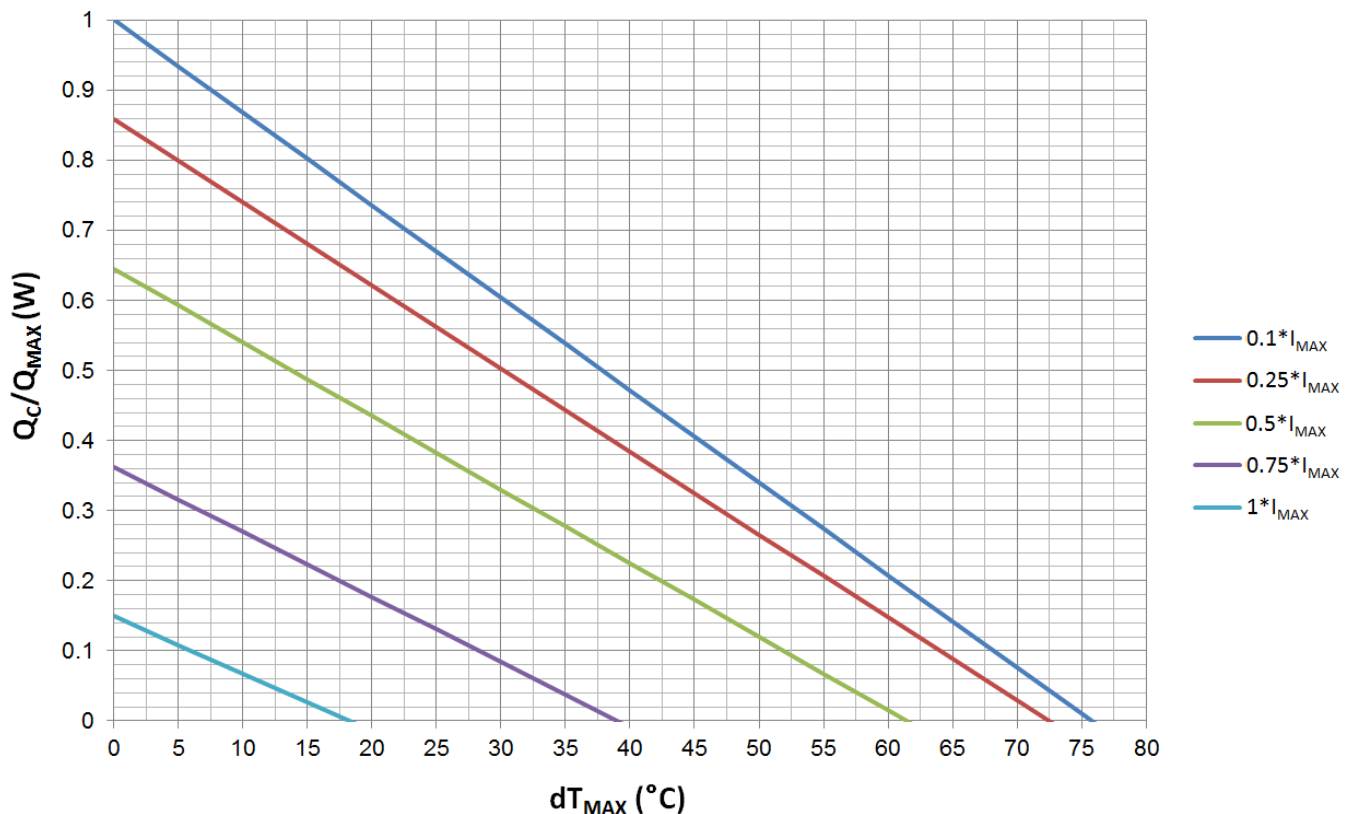
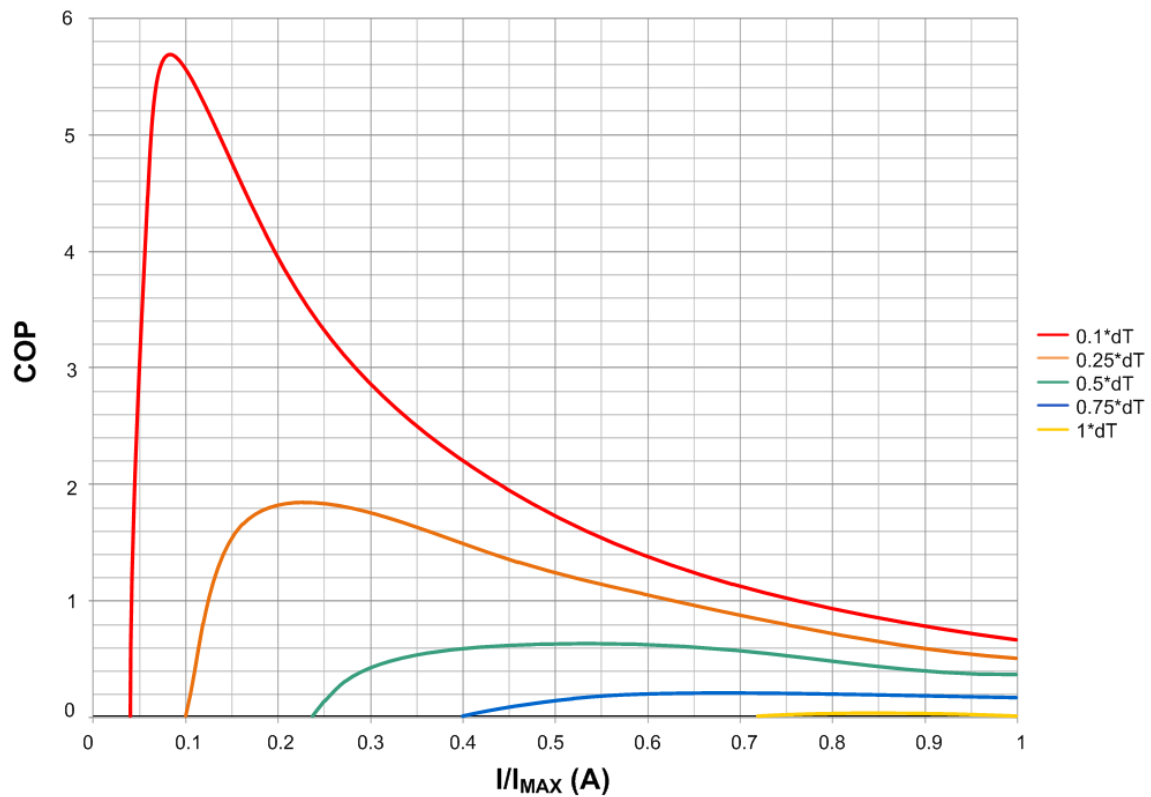
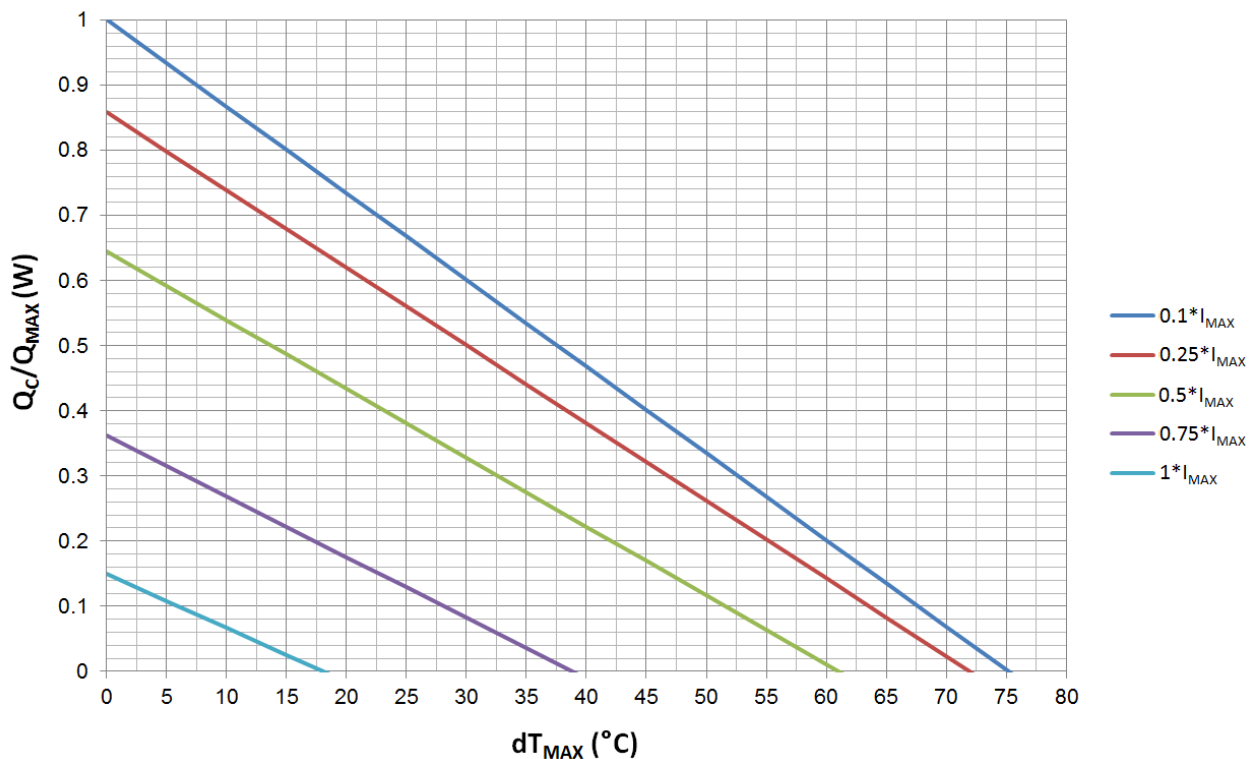
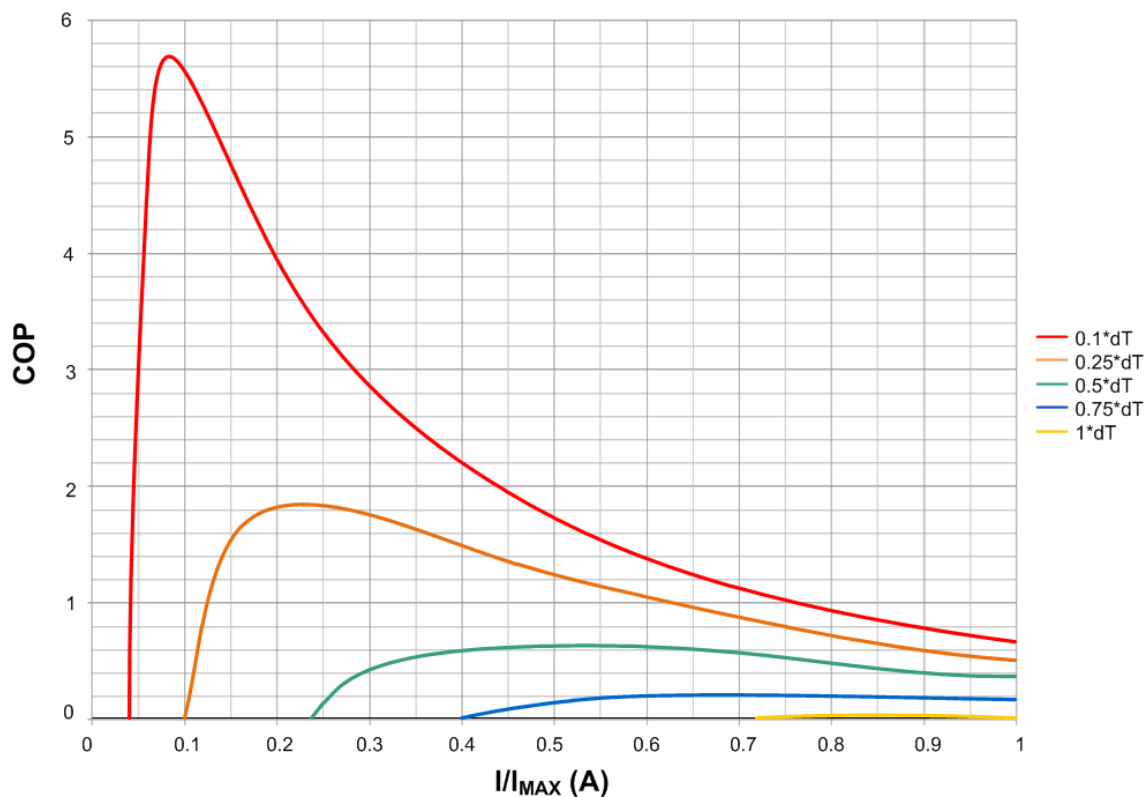

Figure 2. Q_C/Q_{MAX} vs. dT_{MAX}
Figure 5. COP vs. I/I_{MAX}
Figure 6. Q_C/Q_{MAX} vs. dT_{MAX}
Figure 9. COP vs. I/I_{MAX}
5. Use the charts provided in Figure 2 to Figure 5 and Figure 6 to Figure 9, to decide which TEC to use, what is the heat needed to be dumped through the heat sink, what is the heat sink temperature, etc.